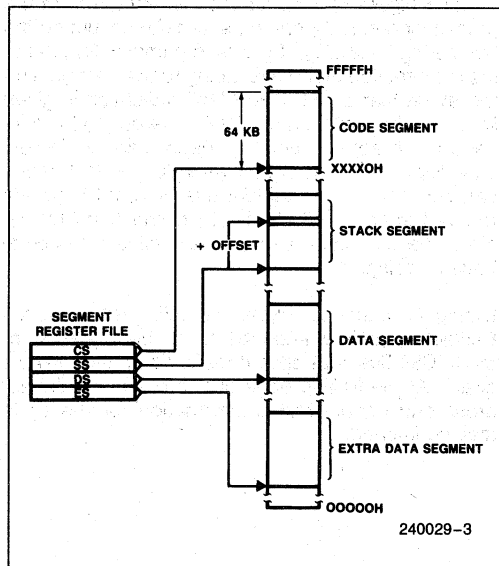

Figure 3a. Memory Organization
The processor provides a 20-bit address to memory which locates the byte being referenced. The memory is organized as a linear array of up to 1 million bytes, addressed as 00000(H) to FFFFF(H). The memory is logically divided into code, data, extra data, and stack segments of up to 64k bytes each, with each segment falling on 16-byte boundaries. (See Figure 3a.)